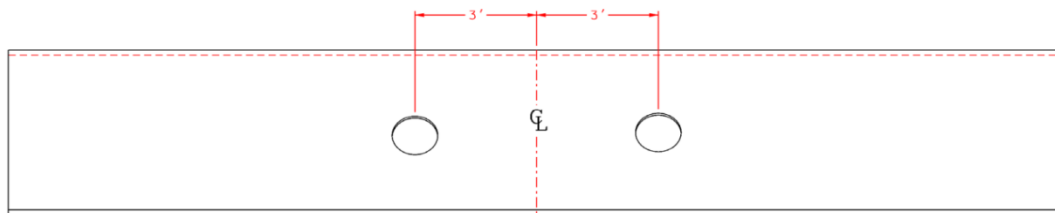
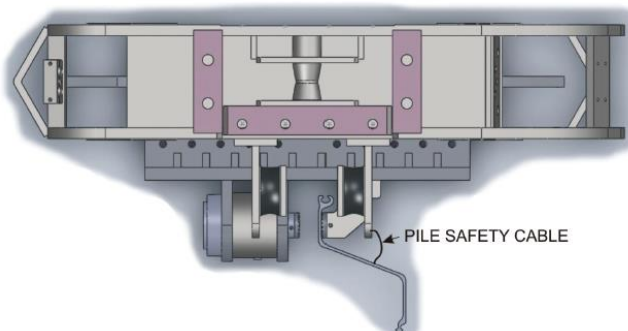

FIGURE 1
FIGURE 2
1. First, check that the lifting capacity of the excavator, at the working radius, exceeds the combined weight of the V-5ESC assembly and the pile. Then, lift the pile using an appropriately sized cable between the lifting point on the Rototilt assembly and the lifting hole in the pile. (Refer to figures 1 and 2). Once the pile is hanging nearly vertical, guide it into the hammer jaws or thread the pile into an already driven pile. Position the jaws on the pile (see figure 2) and close the jaws and start the hammer. The vibration, coupled with the down crowd force of the excavator drives the pile. Do not exceed the down crowd force rating.
2. Cut pile handling holes 2ft. or more above center of the pile on either side of center as required to position pile in jaws as shown in figure 1.
⚠ DANGER The V-5ESC side clamp attachment is designed to handle a single pile with a **MAXIMUM** weight of 2 TONS. Appropriate pile lifting rigging should be supplied by the end user to handle the pile in a safe manner. Attach cable(s) to lifting eye(s) on the hammer to allow safe handling of the pile and placing it in the jaws as shown in figure 2.